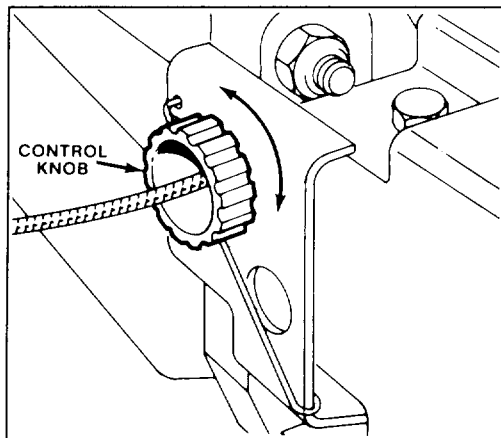

Figure 19
2. ADJUSTMENT (Fig. 19)—Rotate control knob clockwise 1/2 turn if mower does not self-propel. If mower creeps forward, rotate knob 1/2 turn counter-clockwise to loosen belt.